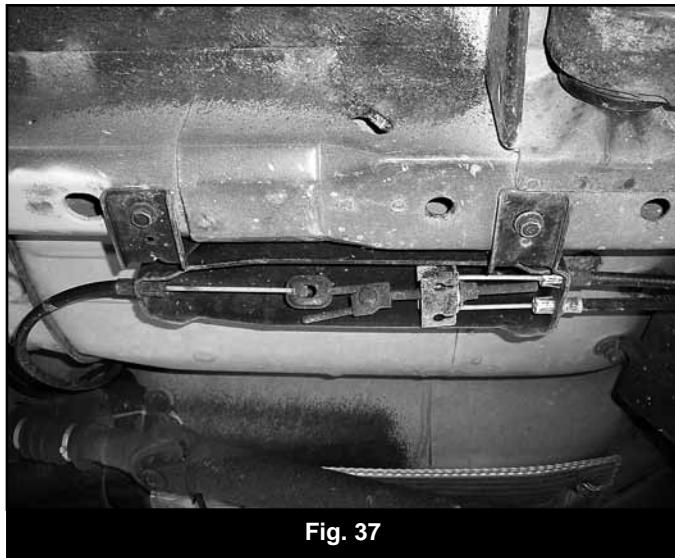

Fig. 37
5. Remove the two bolts mounting the parking brake bracket from the driver's side frame (Fig 37). Allow it to hang free.